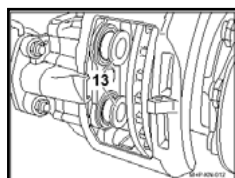

Figure 29
- With pistons extended, carefully inspect the piston boots for cuts, tears, or burns; and ensure that they are properly seated. (See **Figure 29**.)